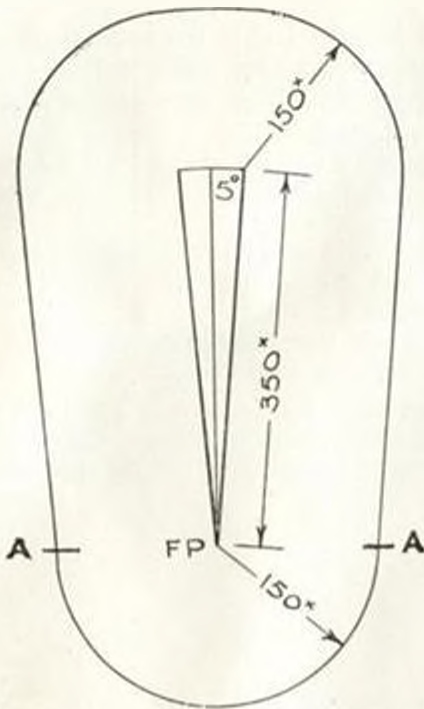
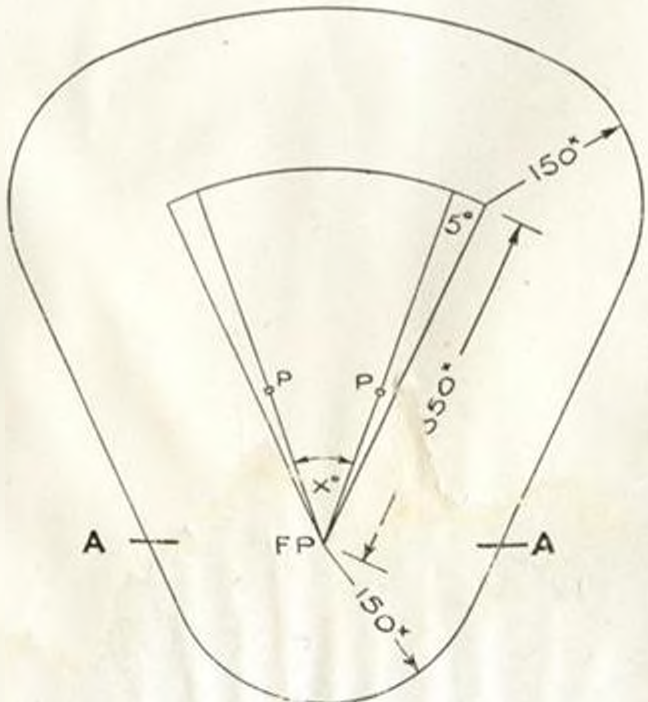

Fig 5.—Danger area—Single line of fire
Fig 6.—Danger area—Arc of fire
9. A template for the danger area of a range that has only a single line of fire for use with stationary targets is shown in Fig 5.
10. To determine the danger area when targets are to be engaged within an arc of fire, it is necessary to apply the Fig 5 template with the line of fire along first one then the other flank line of the target area. All ground which has been covered by the template in this way comprises the danger area. An example of the result is shown in Fig 6.